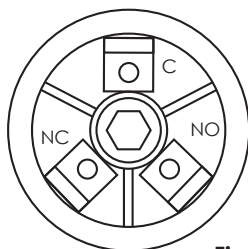

Fig. 11
NOTE: Top view drawing of Pressure Switch on right shows both high (NO) terminal and low (NC) terminal for illustration purposes only. Pressure switches on manifold will have only one terminal, either high (NO) or low (NC). First remove soft rubber cover from center of switch by gently prying off with small flat bladed screwdriver (or similar tool). This will allow access to 7/32" hex socket. Replace cover after adjustment. (see figure 11)